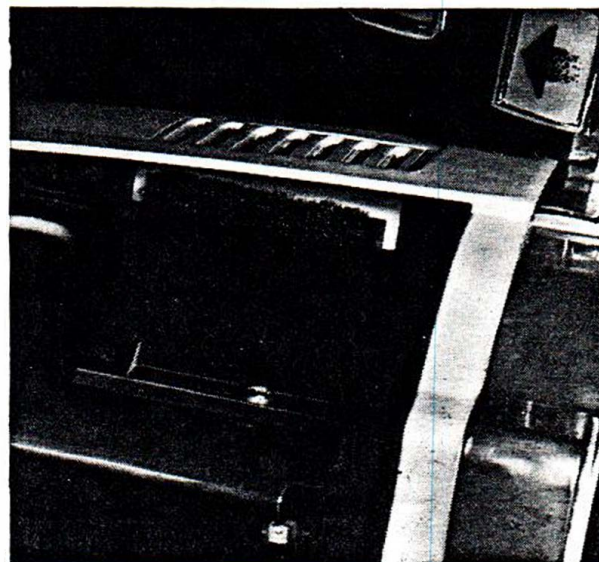

Figure 13. Exhaust Duct, Foam, and Grill Removal
- F. See Figure 13. Remove screw from exhaust duct and lift out foam and grill. Remove exhaust duct from area between motor unit assembly and base subassembly.